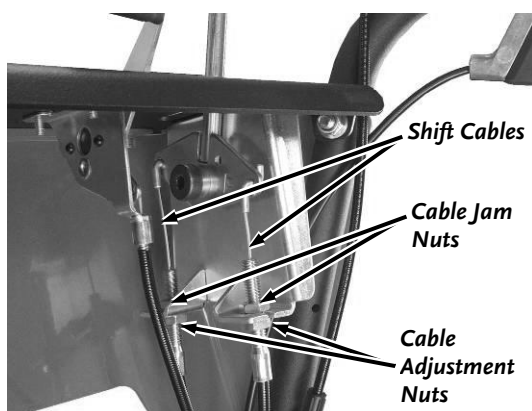

Figure 32
- Locate the Shift Cable Adjustment Nuts on the Shift Lever end of the cable (**Figure 32**).